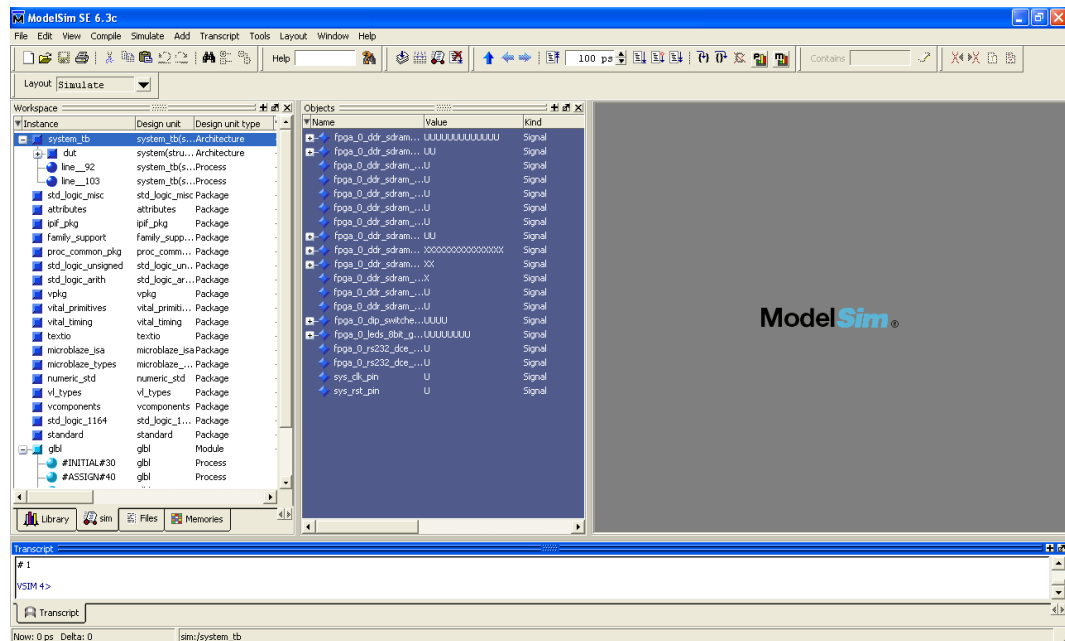
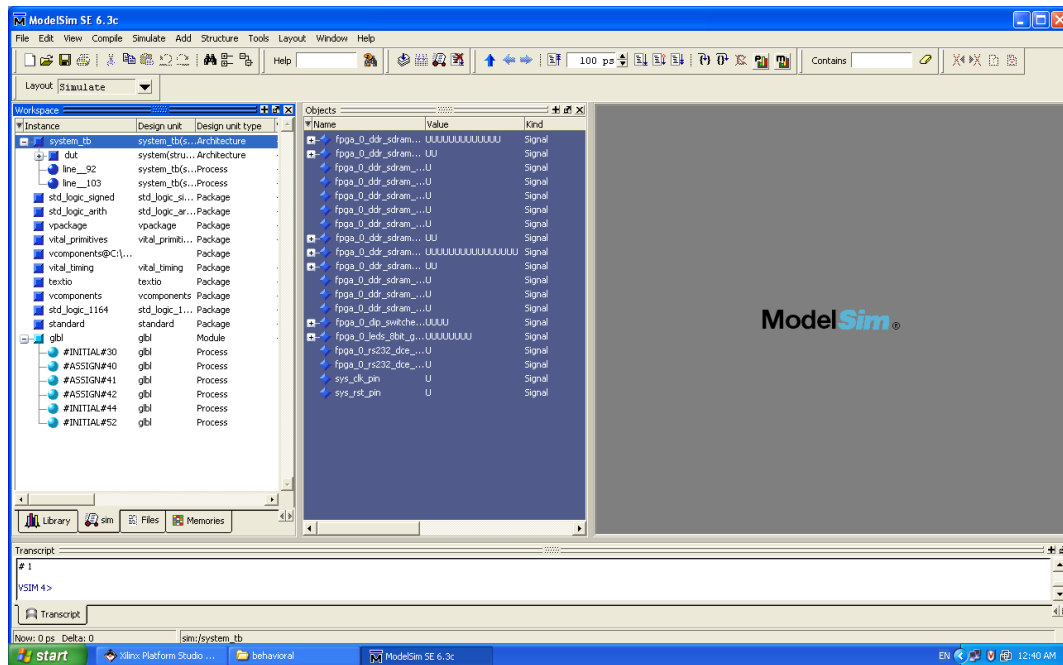

Figure 17: Modelsim - Design Compiled and Loaded
Figure 22: Modelsim - Design Compiled and Loaded
- In the **transcript** window enter the command “**c**” at the command line. This will compile the design which will take sometime. Then enter the command “**s**” which loads the design in ModelSim. After loading the design, the different component of the design are shown in the **Workspace** window as shown in Figure 17 and the **Objects** windows show the internal signals of any selected component.
The simulation scripts generated for ModelSim define the same menu discussed earlier to control the simulation process. Execute the commands “**c**” and “**s**” to compile and load the design. When the design is loaded as shown in Figure 22 all the components in the simulation model are displayed in the **Workspace Window**. Compare the components tree of the timing simulation model to the behavioral simulation model (see Figure 17).